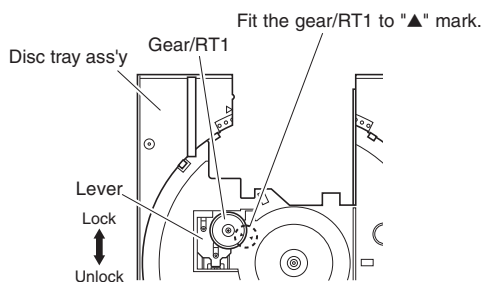

Fig. 4
- a. Slide the lever so that the gear/RT1 becomes free. (Fig. 4)
- b. With the "▲" mark on the gear/RT1 aligned with the same mark on the disc tray, lock it with the lever. (Fig. 4)